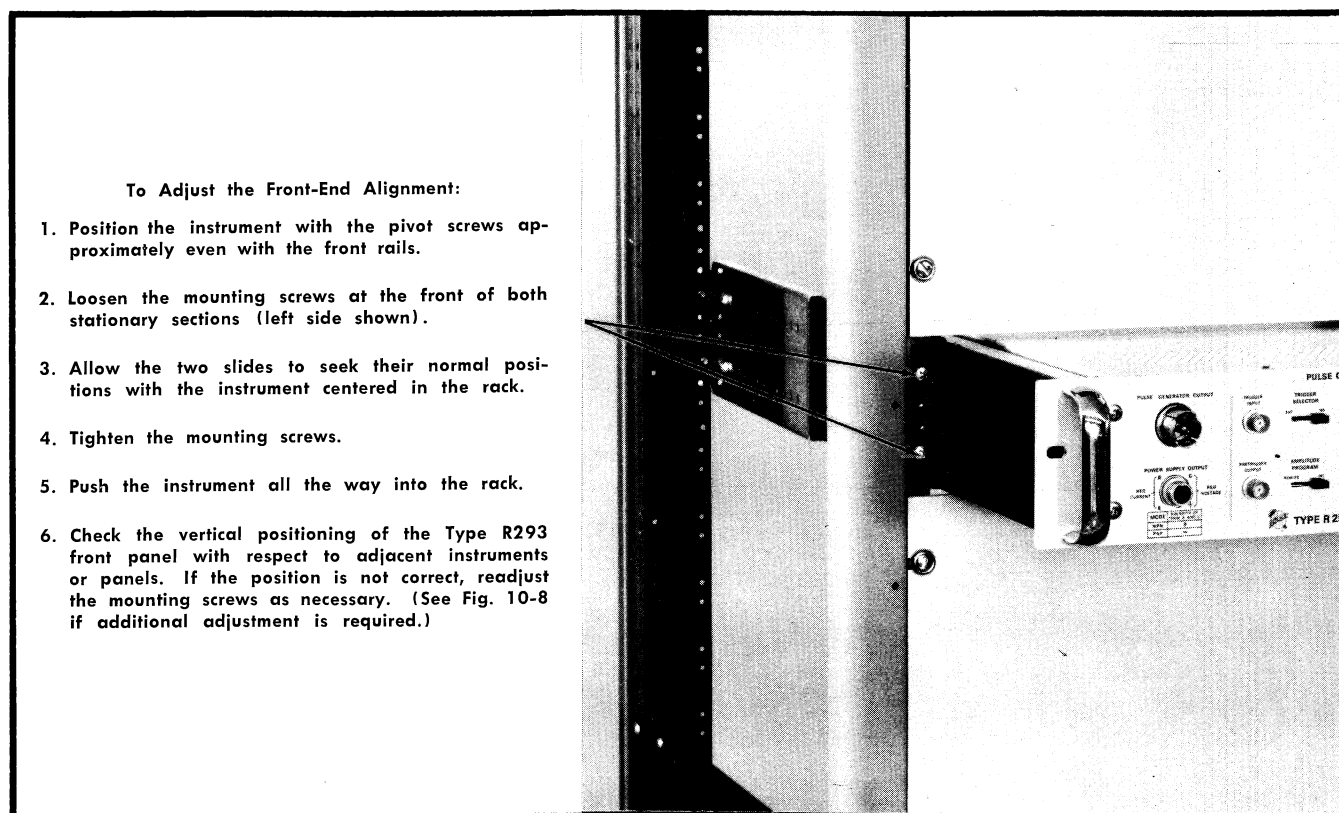

Fig. 10-7. Front-end adjustments for stationary sections.
1. Position the instrument as shown in Fig. 10-7.
2. Adjust the front of the stationary sections according to the procedure outlined in Fig. 10-7.